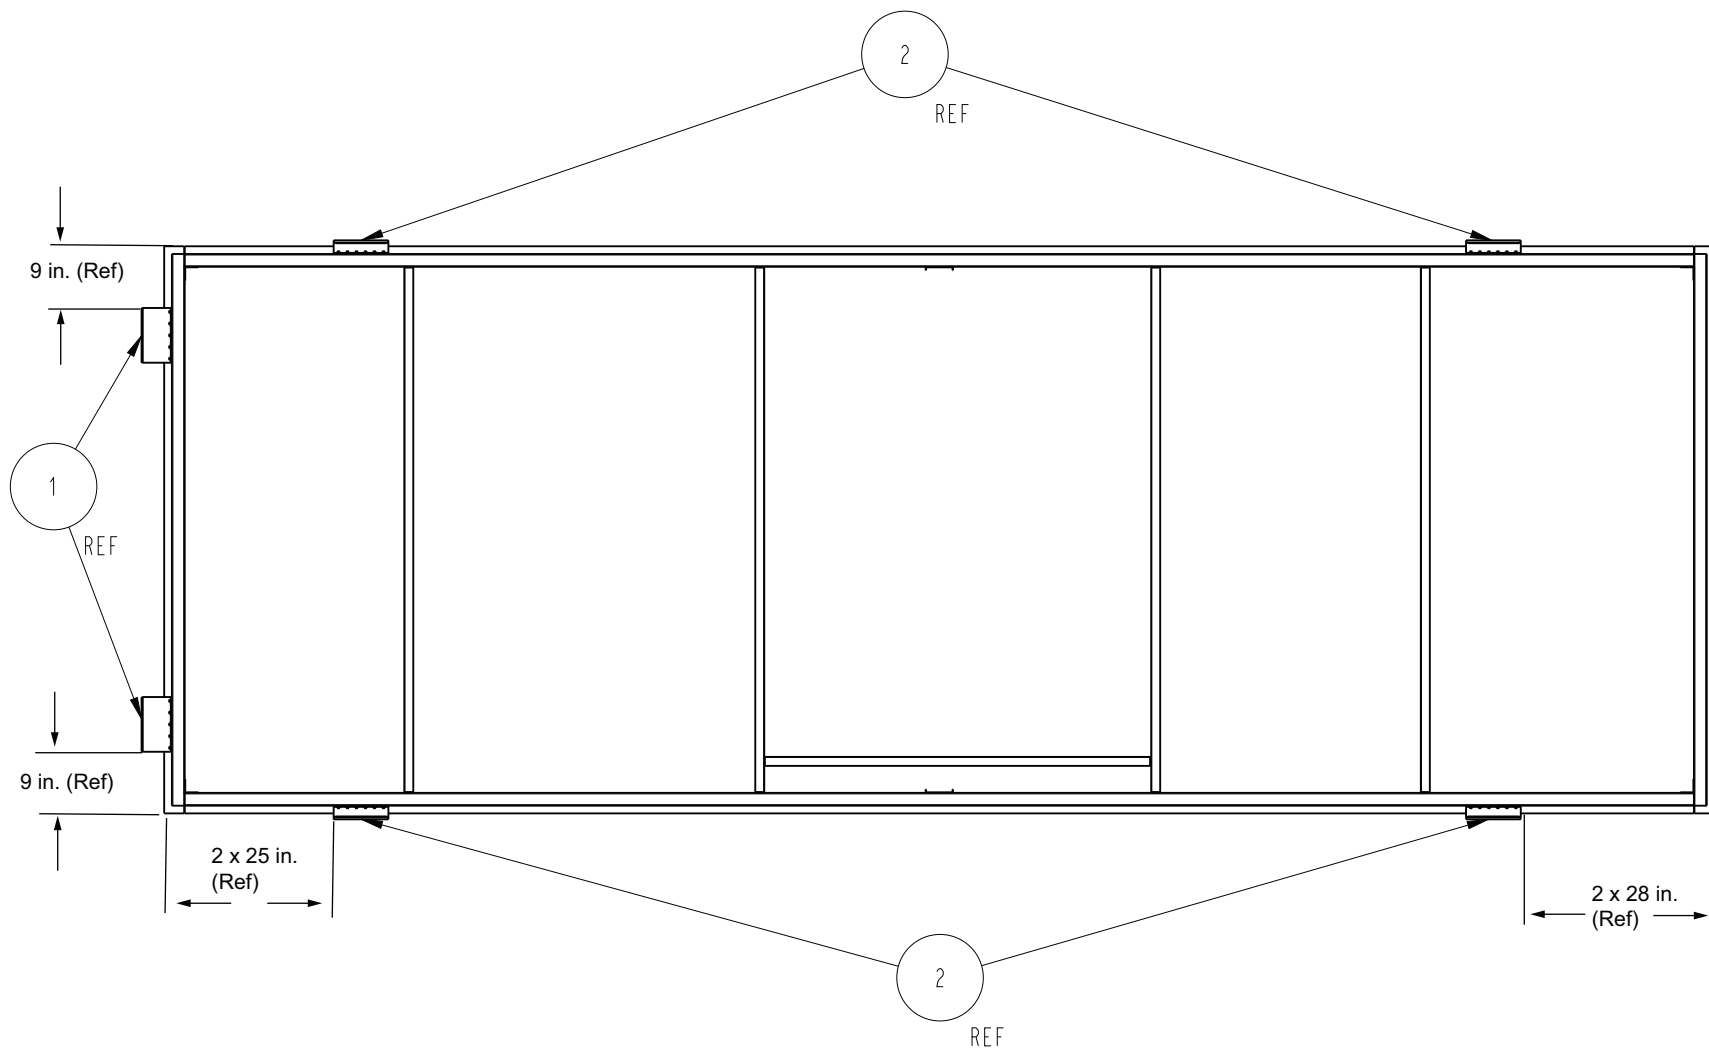

Fig. 3 — CRCNTRKT010A00 — Centering Kit for Compact Chassis
4. Make sure all centering kit brackets are secured in place before installing the unit. See Fig. 3.